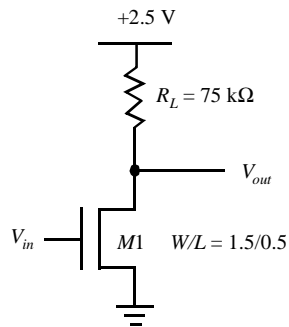

Figure 5.3 Resistive-load inverter
3. [M, SPICE, 3.3.2] Figure 5.3 shows an NMOS inverter with a resistive load.
4. [E, None, 3.3.3] For the inverter of Figure 5.3 and an output load of 3 pF: